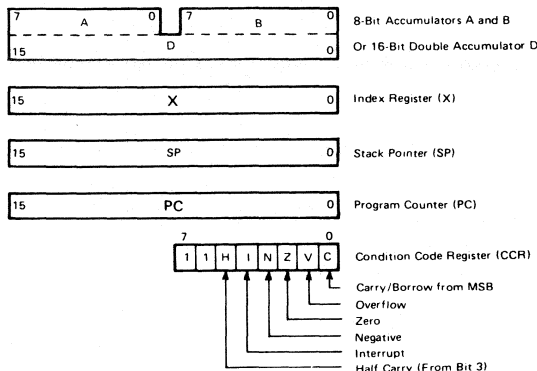

Figure 23 MCU Programming Model
- MCU Programming Model (Figure 23)
The programming model for the HD6801S is shown in Figure 23. The double (D) accumulator is physically the same as the Accumulator A concatenated with the Accumulator B so that any operation using accumulator D will destroy information in A and B.